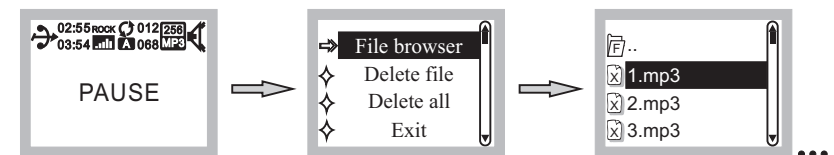

Fig. 25
- (L) Directory Selection:
- (1) File Browser: Press ⏸ during playback and screen displays PAUSE. Press & hold ⏸ to enter the directory option. Press ◀◀ or ▶▶ to sequentially select the directory option, Fig. 25.